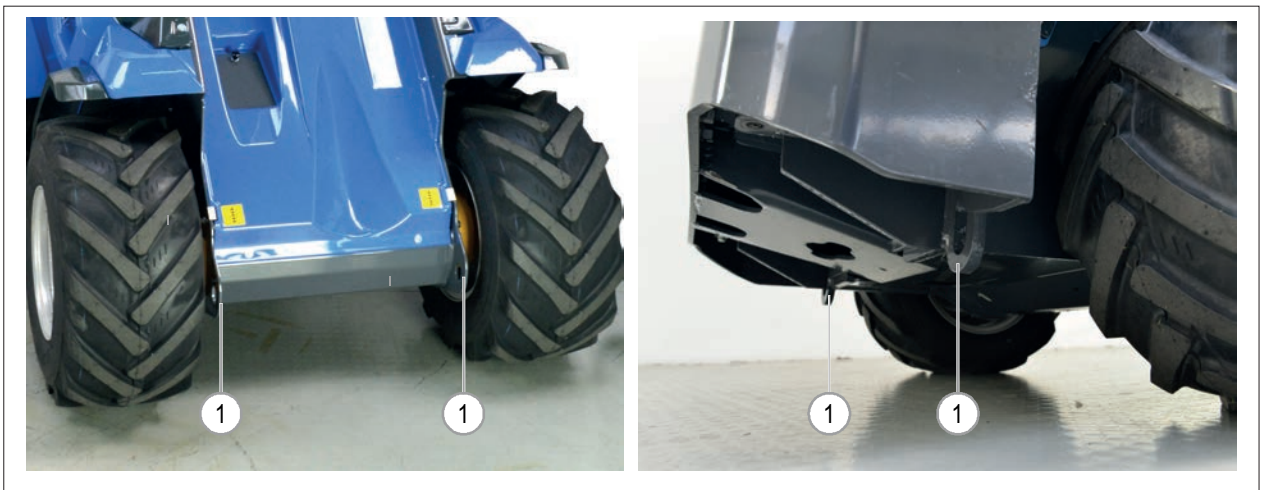

FIG. 15
- 8) Ensure the machine to the platform of the transport vehicle with ropes, belts, wheel clamps suitable for use, using the attachment points (**FIG. 15 - Ref. 1**) on the machine.